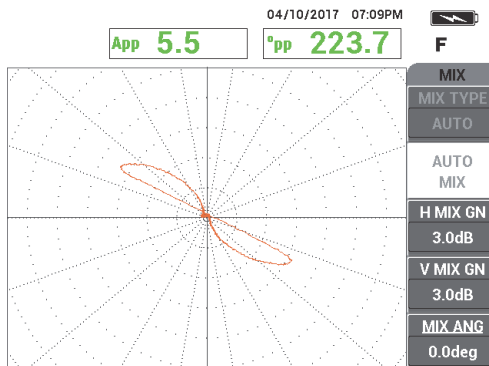

Figure 5-171 The thru-wall hole signal after AUTO MIX
7. Slowly scan the 1.3 mm (0.052 in.) thru-wall hole only, pressing the ERASE foot switch as required to clear the screen. When the hole signal is visible on the NORTEC 600 screen, press the FREEZE key (❄) [see Figure 5-171 on page 249].